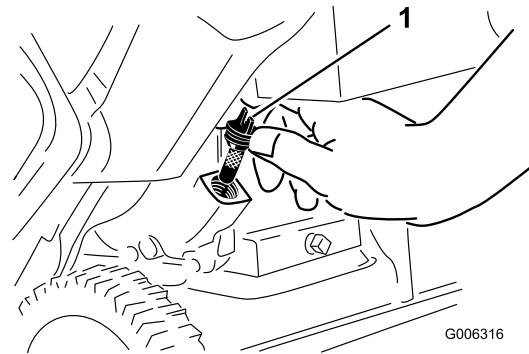

Figure 9
2. Clean around the oil-fill cap (Figure 9).